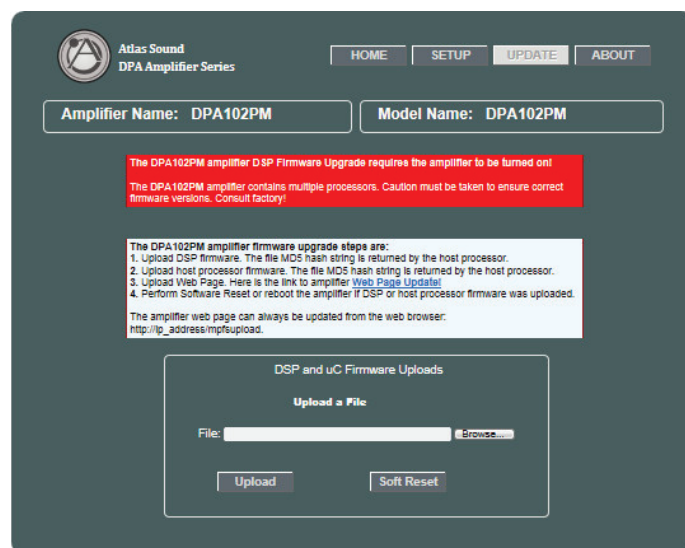

Figure 11
2. Update Page – As features and updates are created it may be required to update the firmware on the amp. This page provides directions on how to perform a firmware update as shown in Figure 11.